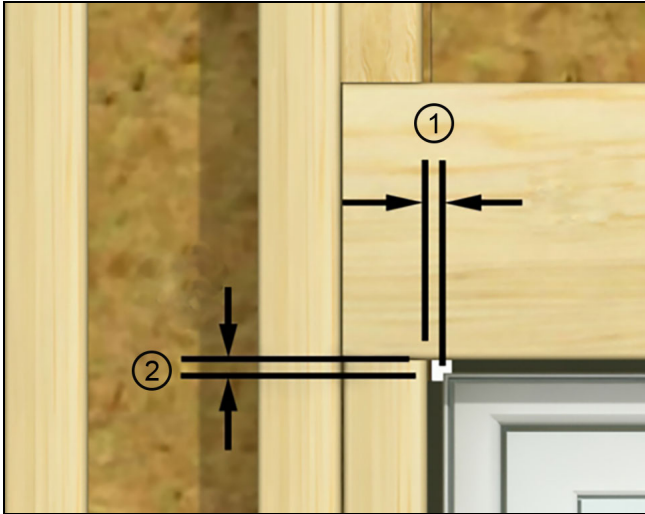

Figure 1
1. Rough openings (RO) should be a 1/2" (13) wider than the outside measurement of the frame and a 1/2" (13) higher. (When framing rough opening, care should be taken to ensure the sill plate is level and the opening is square, straight and plumb.) See Figure 1.